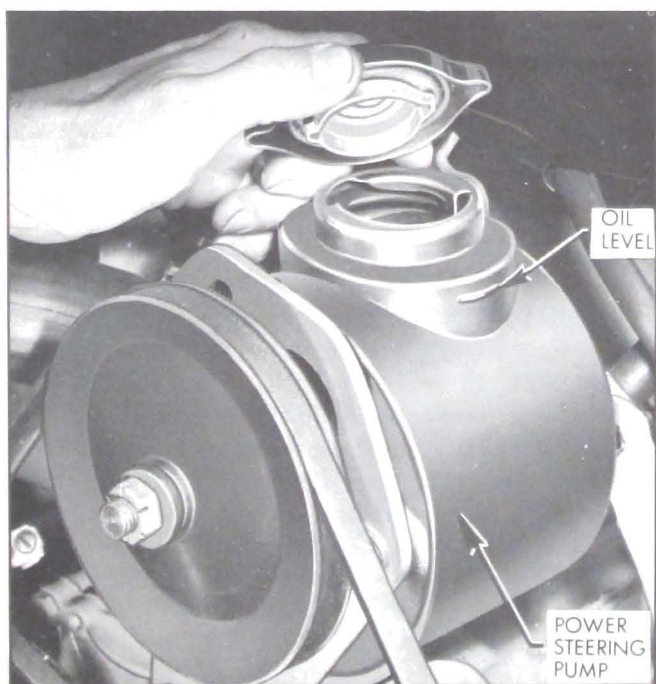

Figure 1-11—Power Steering Pump Reservoir
10. Power Steering Gear. Thoroughly clean dirt from reservoir cap on top of oil pump, then remove cap. With system warmed up, maintain level with oil specified for automatic transmission. See Figure 1-11.